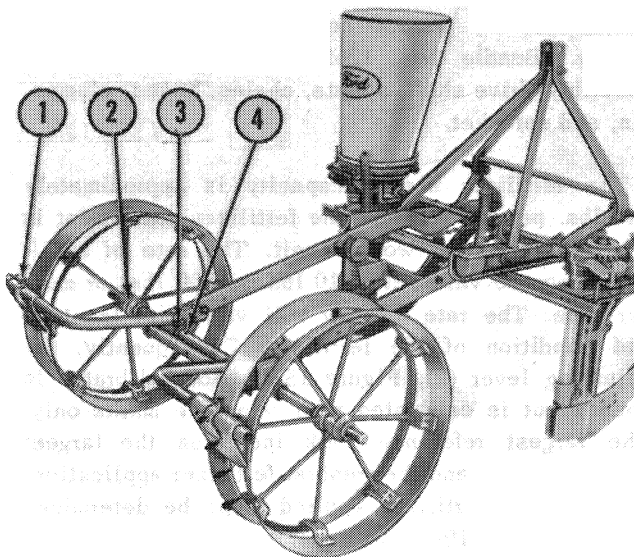
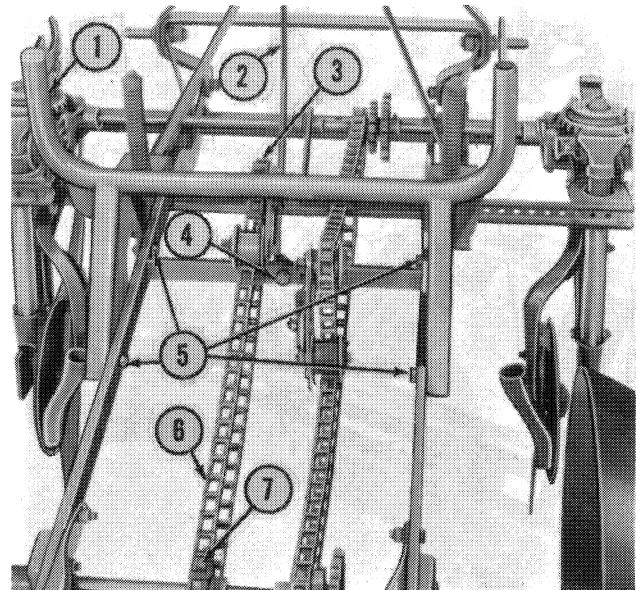

Figure 16
Figure 17
Attaching: Block up the rear end of the planter unit and drive out the pin (2), Figure 16, holding the left
rear wheel to the axle. Loosen the wheel scraper nut (1), and swing the scraper clear of the wheel. Remove the bolt (3), holding the wheel bearing to the planter frame. Slide the left rear wheel, wheel bearing, and washer off of the axle and drive out the roll pin (4). Position the fertilizer drive sprocket (7), Figure 17, in the center of the rear axle and secure it with a cotter pin. Replace the roll pin, and slide the washer and wheel bearing back over the axle. Bolt the axle bearing to the frame and replace the left rear wheel. Replace the pin (2), Figure 16, and tighten the nuts holding the wheel scraper in place.
Position the cradle assembly (1), Figure 17, on the planter frame and bolt it at the four points shown at